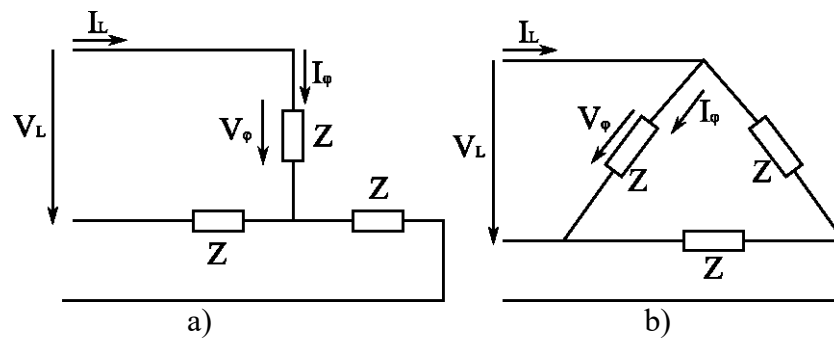

Fig. 8. 3-phase windings under: a) star (Y) and b) delta (Δ) connection.
The connection of the phases in the stator winding of an induction motor can be either in a star (Y) or a delta (Δ). The electric circuit of each connection is shown in Fig. 8.